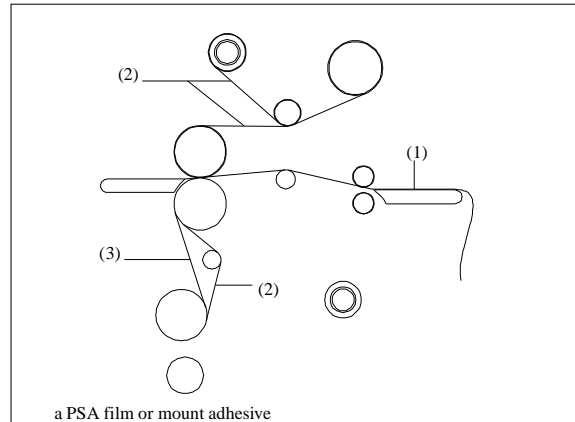

Figure 28
1. Using a slitter, cut (1) the output from the web (Fig. 28).
2. Cut (2) remaining top film web between the idler bar and heat roller. PSA film cut the release liner too.
3. Cut (3) the film web between the lower film supply and the idler bar (Fig. 28).